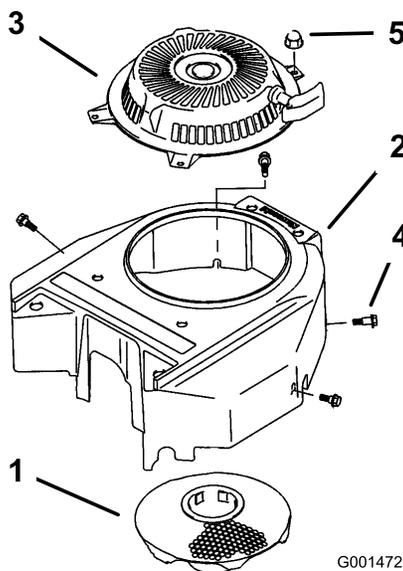

Figure 36
3. Remove the air intake screen, recoil starter and fan housing (Figure 36).
5. Install air intake screen, recoil starter and fan housing (Figure 36).